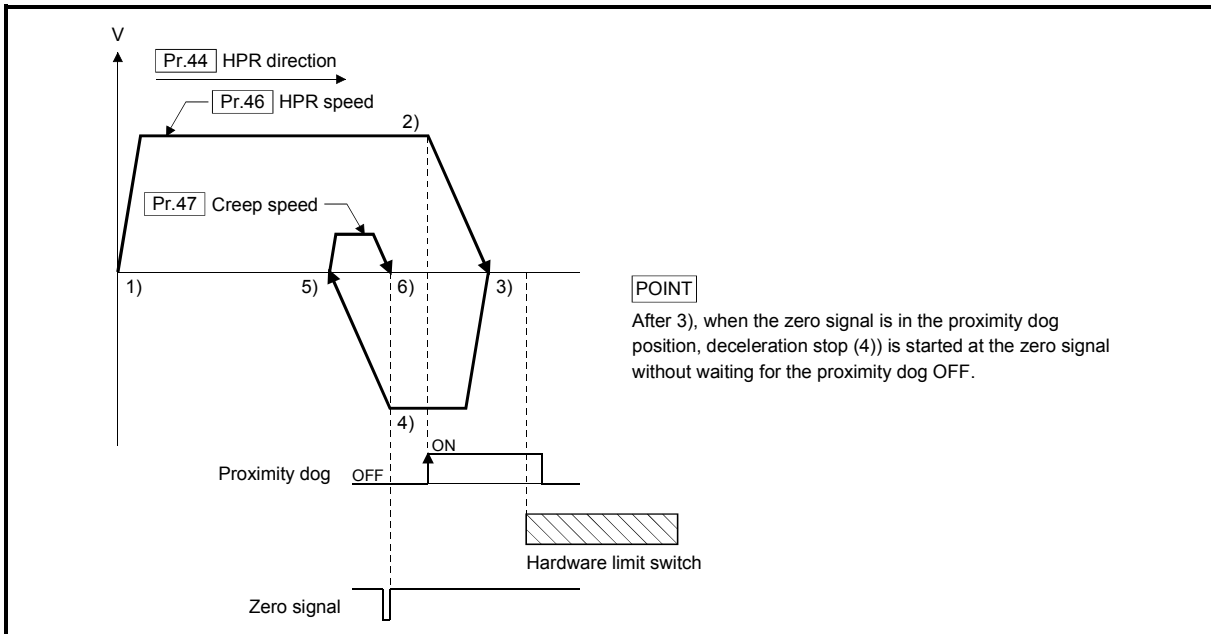

Fig. 8.11 Scale origin signal detection method machine HPR
- (7) Do not use the scale origin signal detection method HPR for the machine with the backlash.
- (8) When using the direct drive motor, make it passed the Z phase once before reaching 3) of Fig. 8.11.